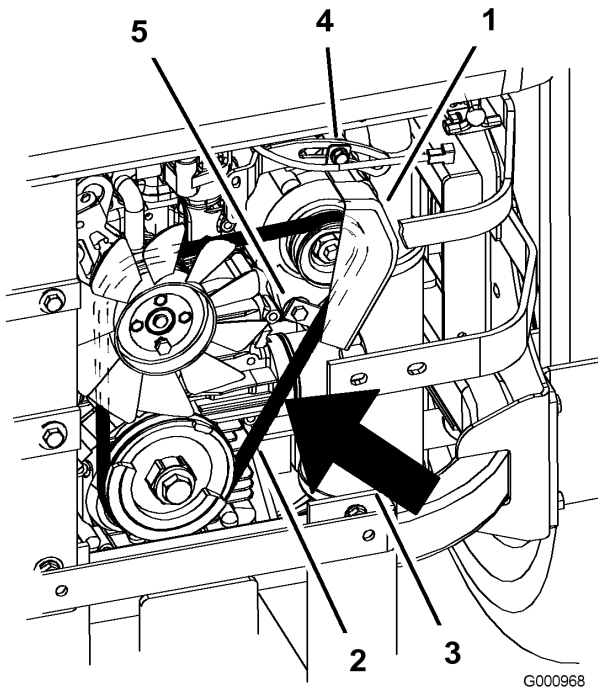

Figure 61
7. Loosen the bottom bolt and remove the upper bolt holding the alternator and cover (Figure 61).
9. Install a new belt around the pulleys and the alternator (Figure 61).
14. Tighten the bottom bolt and install the upper bolt holding the alternator and cover (Figure 61).
2. Adjust the alternator to the outside until there is 1/4 to 11/32 inch (7 to 9 mm) deflection in the belt between the engine and the alternator pulleys with 22.1 lbs of force (10 kgf) (Figure 61).
5. If the deflection is correct, tighten the bottom and upper bolt (Figure 61).